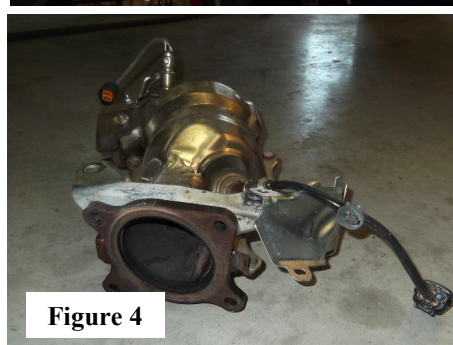

Figure 4
6. Using a muffler stand or an additional person, carefully remove downpipe from the vehicle. (See Fig. 4)